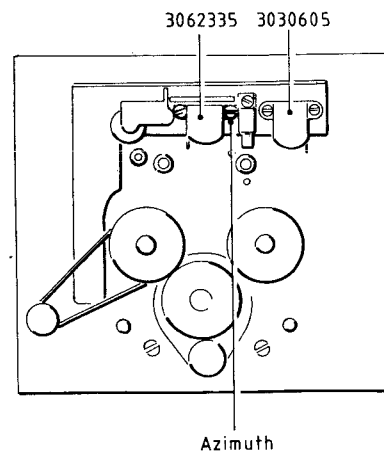

Fig. 9
A gradual degeneration of erase characteristics generally indicates the necessity of replacing the erase head (Fig. 9, 3030605).
Should a loss of high-frequency signals be noted in the reproduced program, the calibration and test procedures of Sections 9, 10 and 13 should first be conducted. If specified performance cannot be attained, replace the record/playback head (3062335, Fig. 9) as follows:
- c) In the PLAY mode, turn the right-hand mounting screw of the record/playback head (Fig. 9) to achieve the maximum output voltage and the identical phase in both channels. Avoid secondary voltage maxima!
- c) Feed in a 333 Hz sinewave signal and set the voltage level at MP 1 (L) and MP 2 (R) to -30 dBm (app. 25 mV) with the signal generator or the INPUT level controls. This level is to be retained for the entire calibration procedure.
- d) Switch the signal generator frequency to 14 KHz. Adjust the signal level to -30 dBm at MP 3 (L) and MP 4 (R) with R 111 (L) and R 112 (R).
- e) Switch back to 333 Hz. Adjust the signal level to -30 dBm at MP 3 (L) and MP 4 (R) with R 107 (L) and R 108 (R).
- f) Repeat steps d and e to eliminate level differences between 333 Hz and 14 KHz and thereby achieve a linear frequency response. If the frequency characteristic at high frequencies is not sufficiently linear, check the condition of the record/playback head (3062335, Fig. 9) and replace, if necessary, according to Section 8.